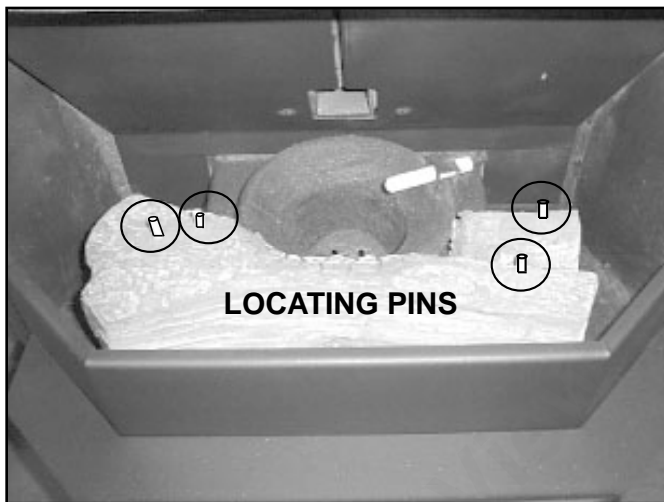

Figure 21.1
1. Place the front log in first as shown in **Figure 21.1**. Place log between firepot and face of appliance with charred area surrounding firepot.